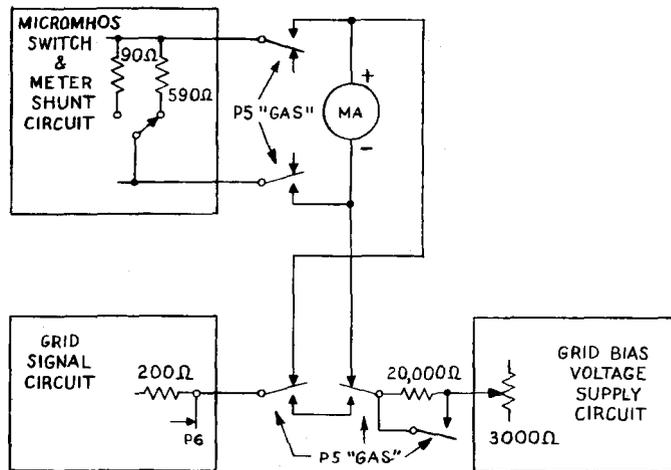

Fig. 6 - Gas Test Circuit
2.25 Gas current in a tube or grid leakage current due to poor grid to filament insulation may be detected by the switched insertion of the micromhos meter into the grid circuit of a tube under test, as shown in Fig. 6,